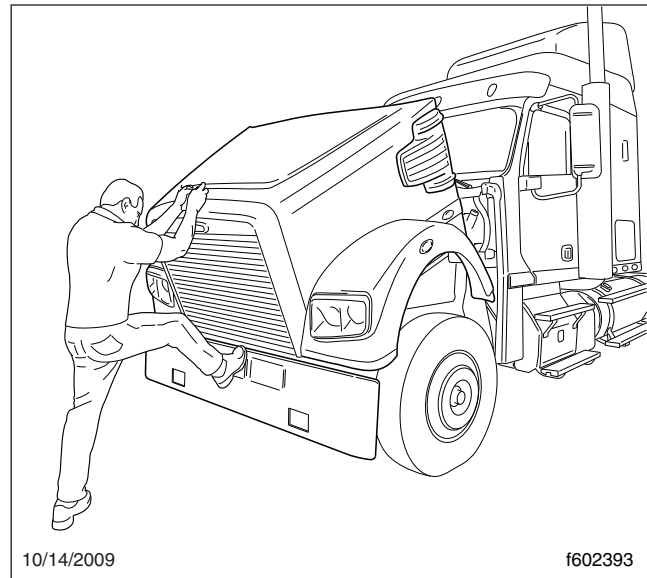

Fig. 2.7, Hood Tilting
3. Using the bumper step and grab handle, slowly tilt the hood until the straps support it. See Fig. 2.7.